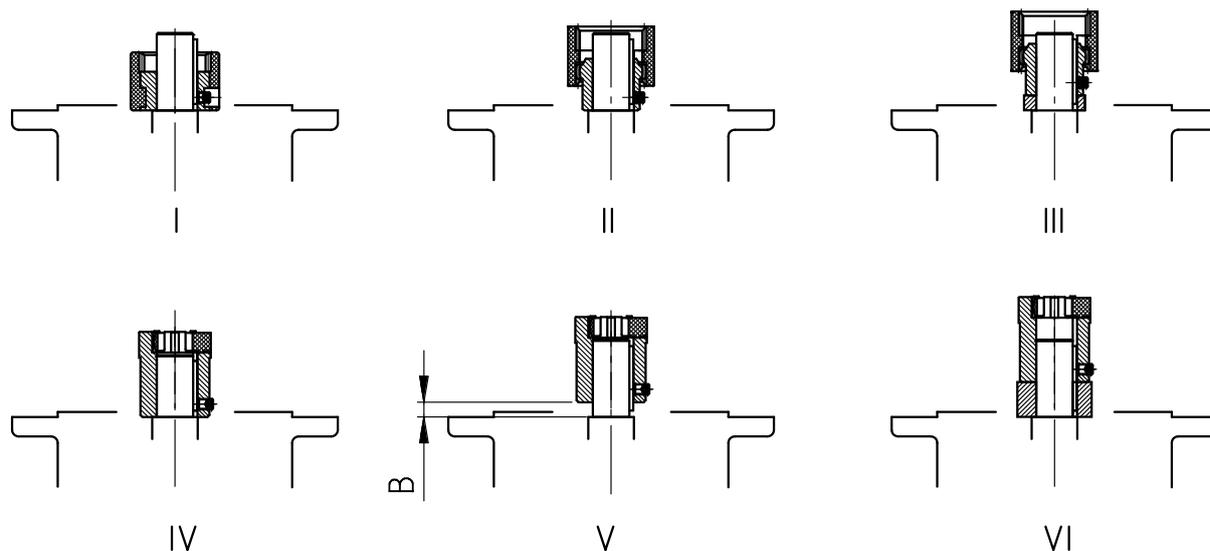

Figure 15: Fitting the coupling onto the motor shaft - various types of coupling
3. Position the half-coupling onto the motor shaft so that the motor parallel key engages into the groove of the half-coupling. Tighten the half-coupling in accordance with the motor manufacturer's instructions. With standard helical gear units, observe dimension B between the half-coupling and the collar (see "Figure 15"). Adjust the coupling in accordance with the specifications indicated on the adhesive plate for certain **NEMA adapters** .
8. Attach the motor to the adapter. Also attach the enclosed ring gear or the enclosed gear sleeve (see **Figure 15: Fitting the coupling onto the motor shaft - various types of coupling**). For the AN360TC and AN400TC adapters, attach the adapter flange to the motor first, and screw the motor onto the adapter.